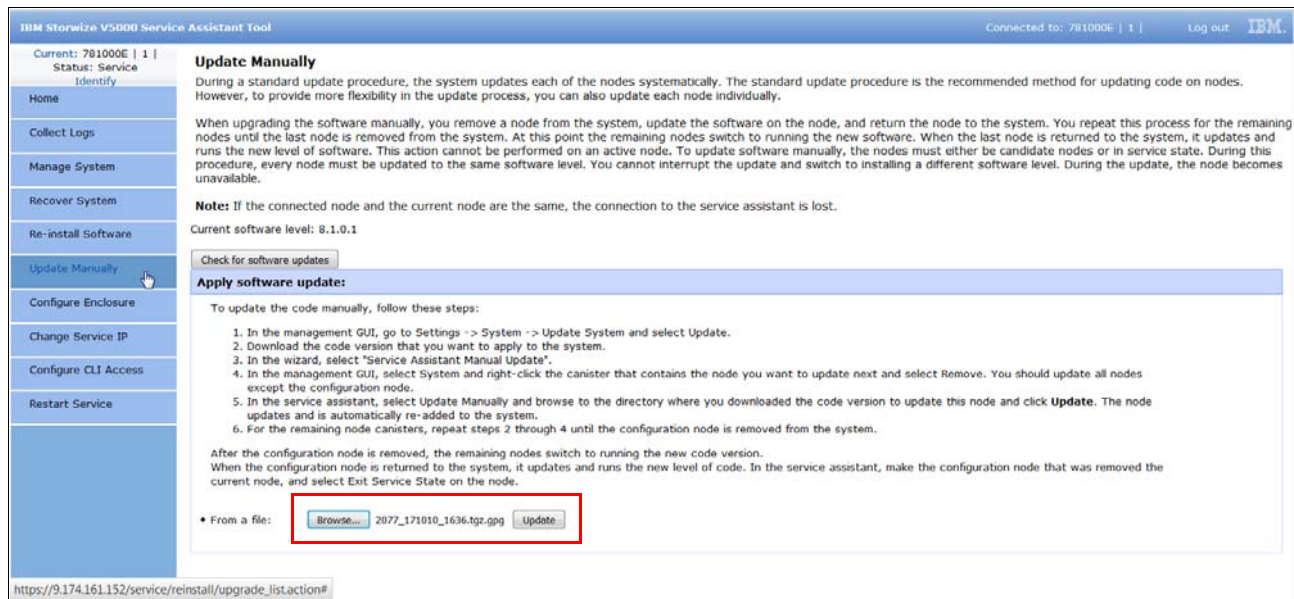

Figure 12-53 Starting the update in the Service Assistant Tool
- In the Service Assistant Tool, select **Update Manually**, and choose the required node canister software upgrade file, as shown in Figure 12-53 on page 662.